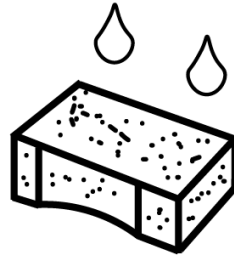

Figure 21
- Oil the filter carefully, Fig. 21. Use engine oil.